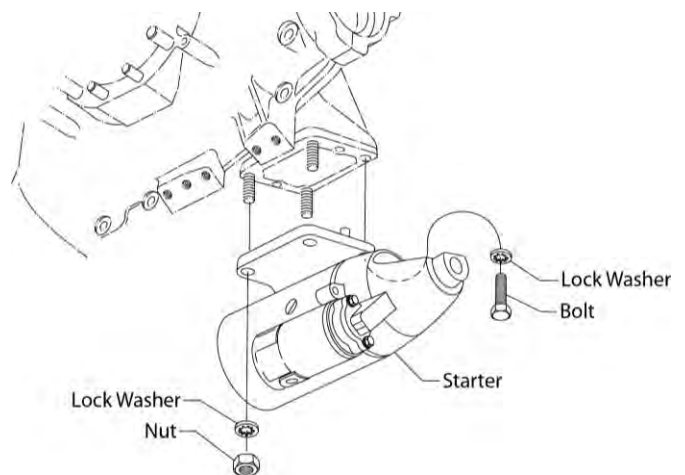

Figure 7
- (1) Disconnect all power to the engine.
- (2) Remove electrical leads from the starter. Refer to the airframe manufacturer's manual.
- (3) Remove the bolt and lock washer, from the starter (Figure 7). Discard the lock washer.
- (4) Hold the starter and remove the three nuts and lock washers from the studs on the mounting face for the starter. Discard the lock washers.
- (5) Remove the starter from the studs on the engine.
- (1) Install the starter onto studs and seat on mounting face of the engine (Figure 7).
- (2) Install the starter with a new lock washer and a nut on each of the three studs.
- (3) Install the bolt, a new lock washer, and a flat washer in the vacated hole on the engine mounting face of the starter.
- (4) Tighten and torque the bolt and all of the nuts per the Standard Torque Tables in the latest revision of the *Service Table of Limits - SSP-1776*.
- (5) Install electrical leads to the starter as per the airframe manufacturer's manual.
- (6) Restore power to the engine.
- (7) Complete the operational test in Chapter 72-00, to make sure the starter operates correctly.